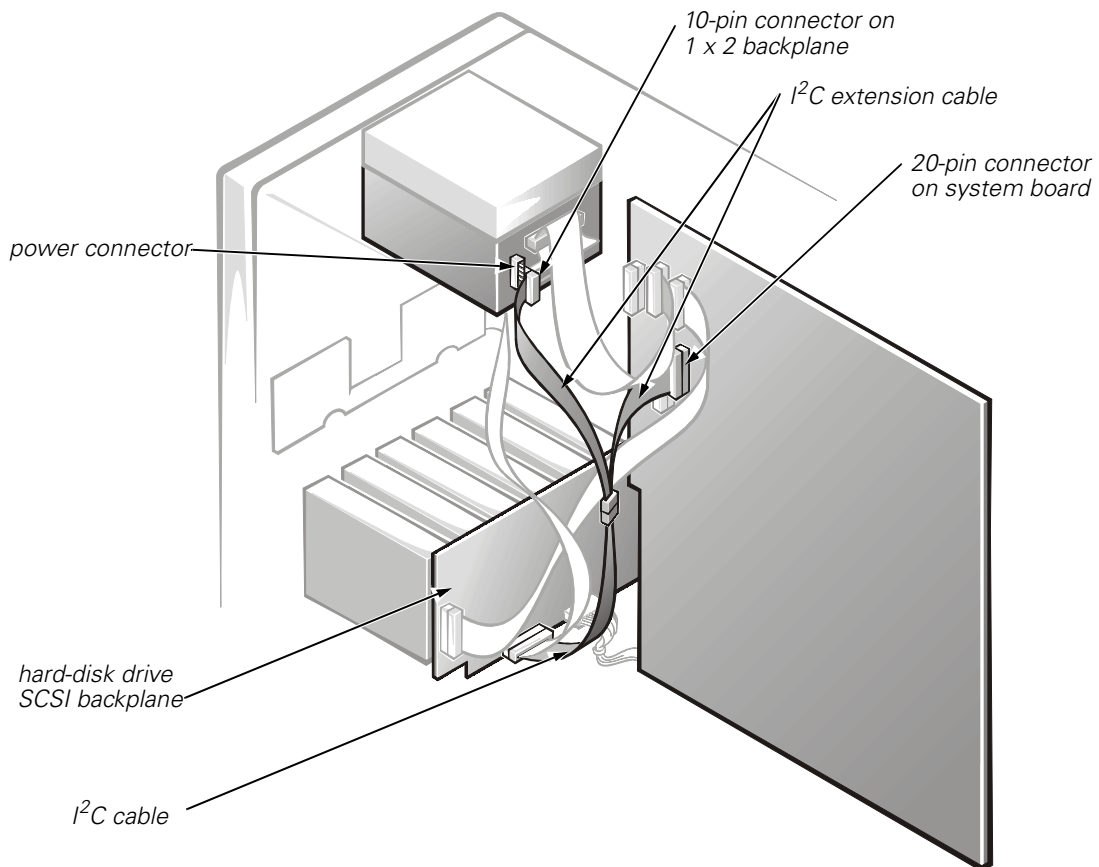

Figure 2. Installing the I²C Extension Cable
1. Disconnect the I²C cable from the 20-pin connector on the system board and set it to one side (see Figure 2).